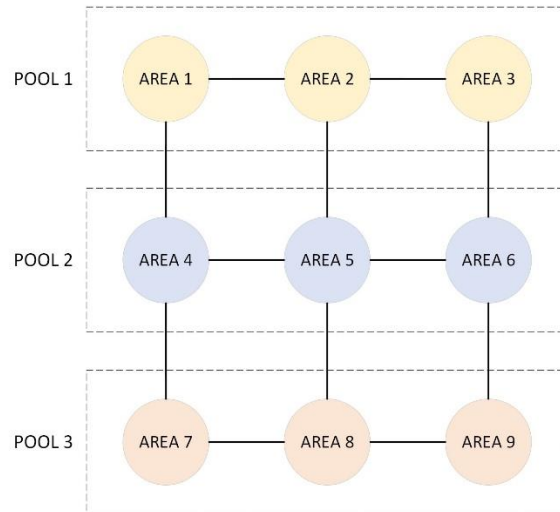

Figure 1. Diagram of the system.
The system is composed of nine local balancing authorities distributed among three pools. The high-level diagram is shown in Figure 1.
- **Transmission interconnections:** Transmission interfaces are defined between areas. The “04-Transmission.xlsx” file has two sheets. The “Transmission Interface” tab defines 12 transmission interfaces, as shown in Figure 1. The “Transmission Limits” tab sets positive and negative transmission limits. Notice that ratings change over time, representing transmission expansion investments.